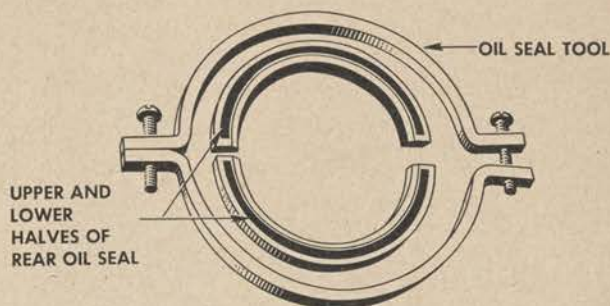

Figure 291. Rear oil seal and tool.
(8) Before replacing the oil seal and its cover, wipe the inside surface of the oil seal with cup grease. Insert the lower half of the cover and oil seal first, with the oil seal toward the engine block. Replace the bottom screw while holding the seal in position, but do not tighten. Follow this procedure with the other two screws. Turn the screws up snugly but not tight.
(9) Repeat the procedure with the upper half of the cover and oil seal.
(10) Insert the oil seal tool (fig. 291) in back of the flywheel flange at the top and bottom of the oil seal cover and lock the tool bearing down hard enough only to bring the two halves of the oil seal together tightly.